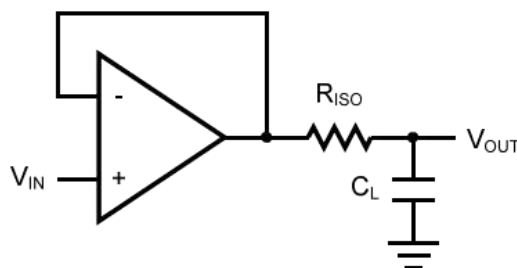
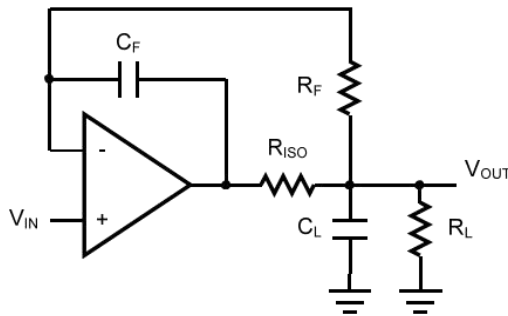

Figure 2. Indirectly Driving a Capacitive Load Using Isolation Resistor
Figure 3. Indirectly Driving a Capacitive Load with DC Accuracy
The AD809X family is optimized for bandwidth and speed, not for driving capacitive loads. Output capacitance will create a pole in the amplifier's feedback path, leading to excessive peaking and potential oscillation. If dealing with load capacitance is a requirement of the application, the two strategies to consider are (1) using a small resistor in series with the amplifier's output and the load capacitance and (2) reducing the bandwidth of the amplifier's feedback loop by increasing the overall noise gain. Figure 2. shows a unity gain follower using the series resistor strategy. The resistor isolates the output from the capacitance and, more importantly, creates a zero in the feedback path that compensates for the pole created by the output capacitance.
The circuit in Figure 3 is an improvement to the one in Figure 2. R_F provides the DC accuracy by feed-forward the V_{IN} to R_L . C_F and R_{ISO} serve to counteract the loss of phase margin by feeding the high frequency component of the output signal back to the amplifier's inverting input, thereby preserving the phase margin in the overall feedback loop. Capacitive drive can be increased by increasing the value of C_F . This in turn will slow down the pulse response.